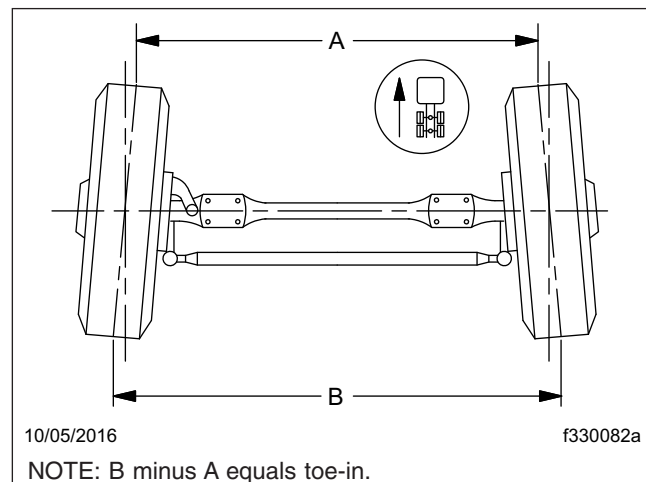

Fig. 8, Wheel Toe-In (overhead view)
6. Place a trammel bar at the rear of the front tires; locate the trammel pointers at spindle height, and adjust the pointers to line up with the scribe lines on the center ribs of the front tires. See **Fig. 8**. Lock in place. Check that the scale is set on zero.